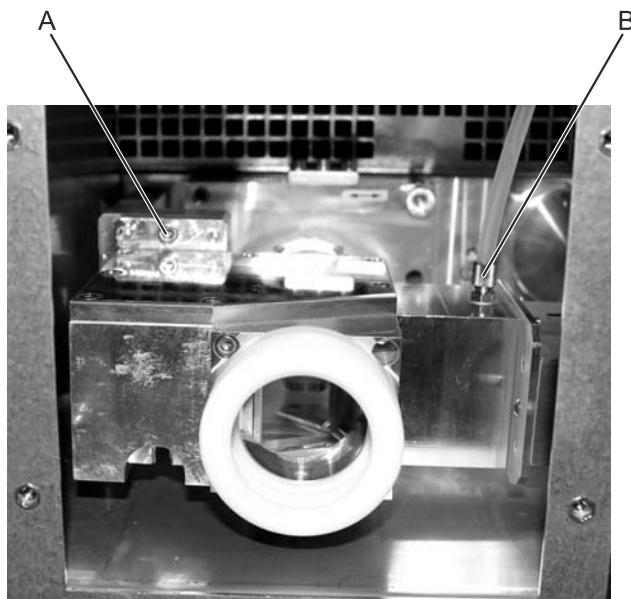

Figure 79: Disconnecting and unscrewing the energy monitor
9. Disconnect the purge gas line from the top of the energy monitor (see Figure 79, B).
10. Use the 4 mm allen key to remove the screw that secures the energy monitor (see Figure 79, A).